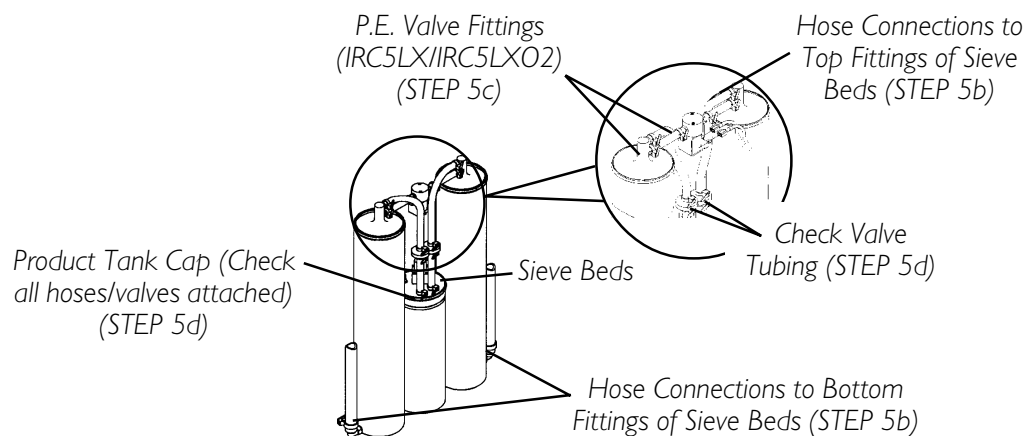

FIGURE 2 - SIEVE BED AND PRODUCT TANK HOSES
- c) P.E. Valve hose connections on top of sieve beds. Refer to FIGURE 2.
- d) Hose fittings at product tank cap and check valves. Refer to FIGURE 2.